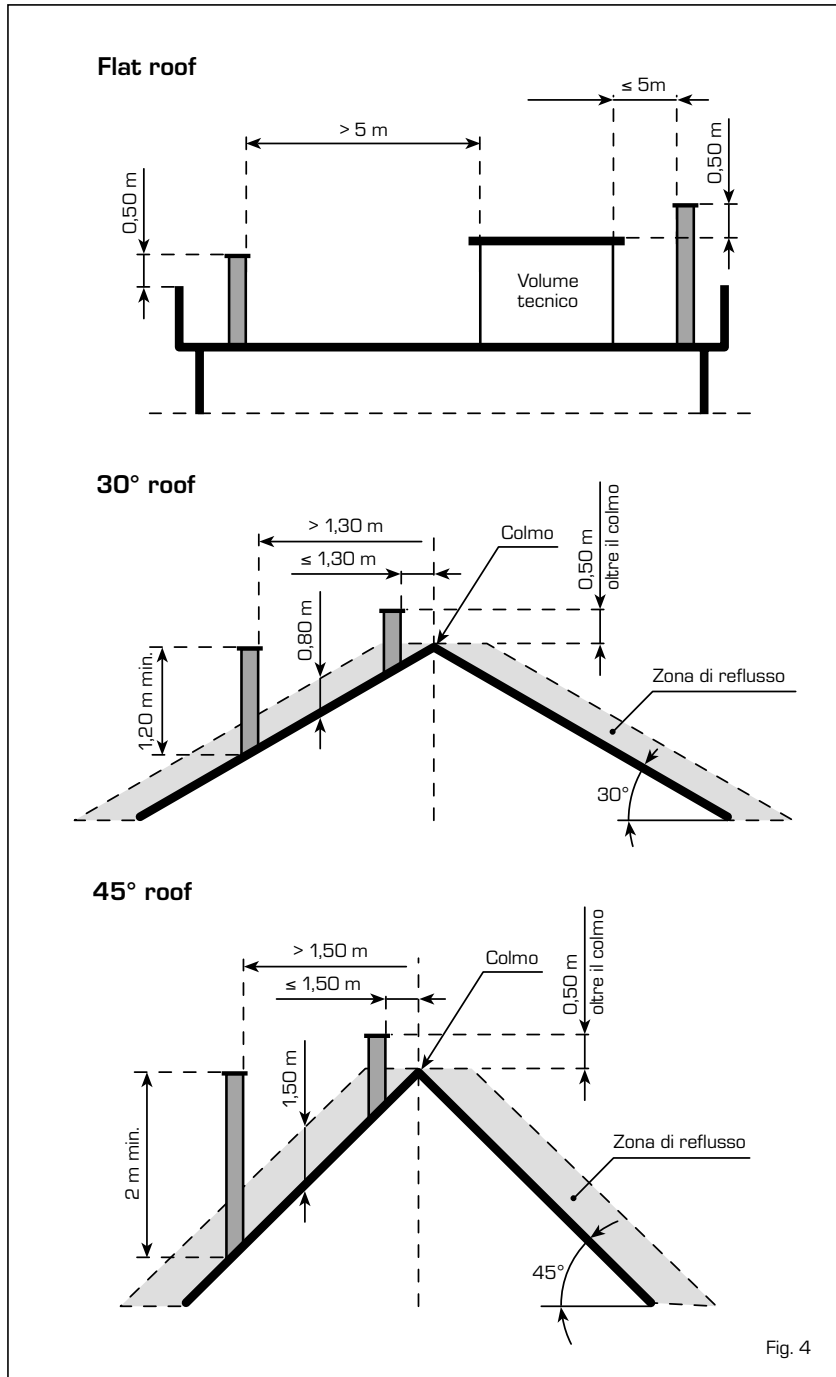

Fig. 4
- The minimum heights shown in fig. 4 must be complied with;